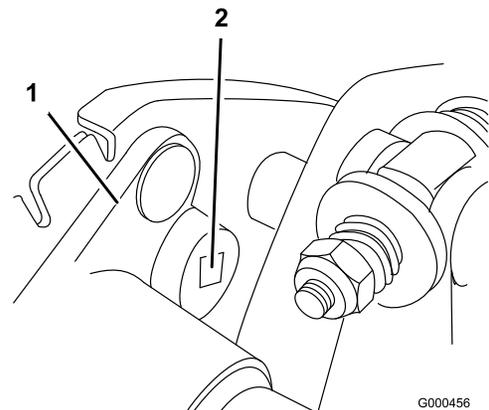

Figure 39
- B. Using a $3/8$ inch drive torque wrench, rotate the bearing housing with 35-40 in.-lb. (4-4.5 N-m) of torque to set belt tension (Figure 39)